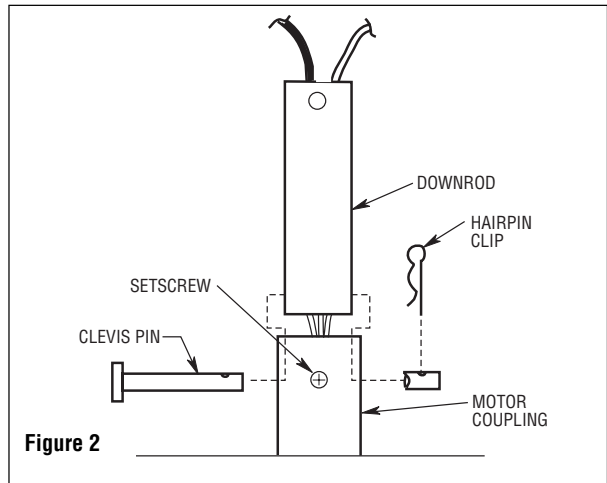

Figure 2
2. Loosen setscrew in motor coupling if necessary. Separate, untwist and unkink the black and white 80" motor leads. Route the motor lead wires through the downrod. Align the clevis pin holes in the downrod with the holes in the motor coupling. Install the clevis pin and secure with the hairpin clip (Figure 2). The clevis pin must go through the holes in the motor coupling and the holes in the downrod. Be sure to push the straight leg of the hairpin clip through the hole near the end of the clevis pin until the curved portion of the hairpin clip snaps around the clevis pin. The hairpin clip must be properly installed to prevent the clevis pin from working loose. Pull on the downrod to make sure the clevis pin is properly installed.
It is critical that the clevis pin in the motor coupling is properly installed and the setscrew securely tightened. Failure to verify that the pin and setscrew are properly installed (as shown in Figure 2) could result in the fan falling.
Il est crucial que l'axe d'assemblage dans l'accouplement du moteur soit installé correctement et que la vis de blocage soit bien serrée. Si vous ne vous assurez pas que l'axe et la vis sont installés correctement (comme cela est illustré à la Figure 2), le ventilateur risquerait de tomber.